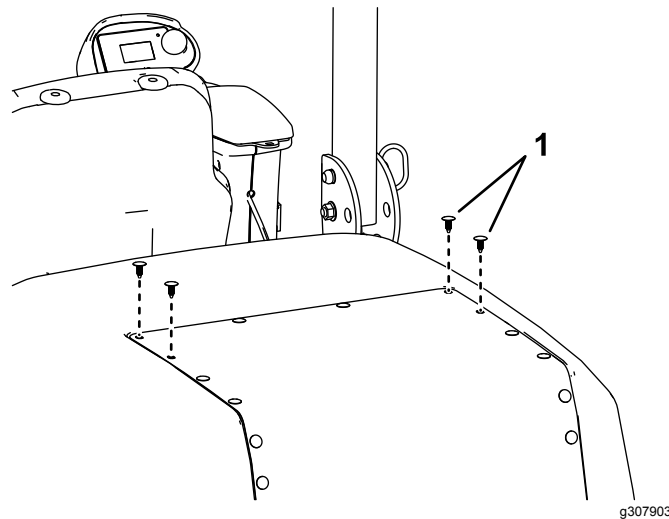

Figure 1
1. Remove 4 plastic rivets from the hood as shown in Figure 1.